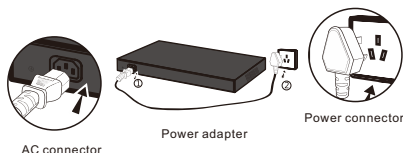

Fig.1.2.2 Power connection schematic diagram
2. The built-in power adapter is not needed, and it can be directly connected to AC100~240V and 50~60Hz major power; see Fig.1.2.2.